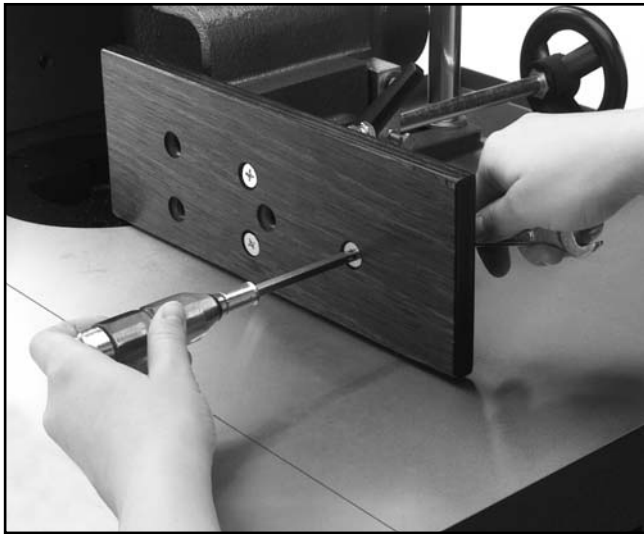

Figure 16. Attach wooden fence assembly.
1. Secure the wooden fence pieces (as shown in **Figure 16**) with the $\frac{5}{16}$ "- 18 x 1" Phillips® head screws, washers, and hex nuts provided.